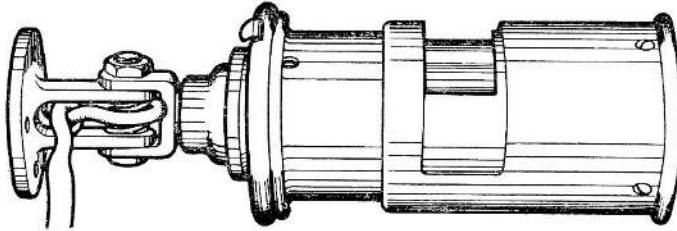

Fig. 1. Cockpit lamp, Mk. 2
3. This lamp (*fig. 1*), is intended for flood-lighting instrument boards. It is designed for mounting on the board itself, and can be adjusted in any direction so that the light can be used in the most effective way. It is fitted with an orange glass (Stores Ref. 5C/643,) and is supplied with a 6 ft. length of Duflex 4 cable.